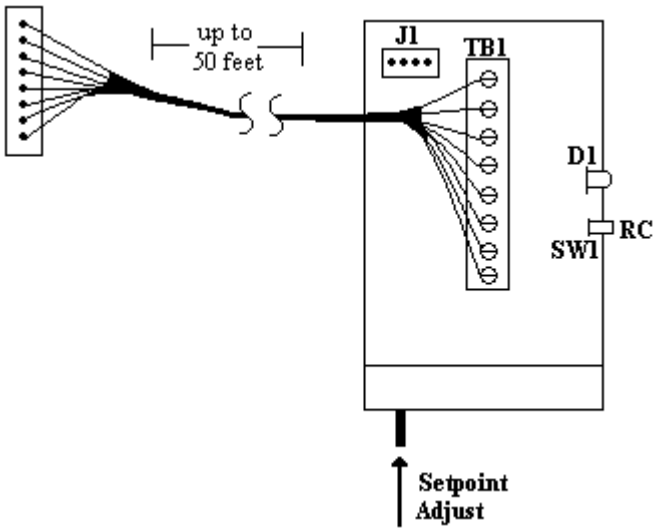

FIGURE 25
Connections are provided for one or two thermostat units (J2 and J3). Each thermostat has a 10k thermistor temperature sensor, a setpoint adjustment slide switch, an override switch, and an override light. The first thermostat is connected to J2 (using analog input 1 and 2 for the temperature and adjust inputs). The second thermostat is connected to J3 (using analog inputs 3 and 4 for the temperature and adjust inputs). The thermostats may be located up to 50 feet from the unitary controller. Each thermostat connector is an eight-pin crimp connector. For field installation, the thermostat can be ordered with a crimp connector to terminal strip converter or crimp connector to pigtails. Alternatively, the installer can order a crimper so that cables can be terminated in the field. The connector on the unitary controller and the thermostat have the same pin-outs so the cable should connect pin to pin. See Figure 25 below.
- 3) If thermostats are to be used, install them in single-gang boxes. Eight conductor, 22 gauge, jacketed wire is recommended to connect the thermostat to the unitary controller. The length of the wire from the thermostat to the controller should not exceed 50 feet. Connect the wire to the thermostat(s) (see Figure 25) and mount thermostat(s) to the wall. Terminate wires to the eight conductor connector at the controller. Do not connect to J2 or J3 at this time.